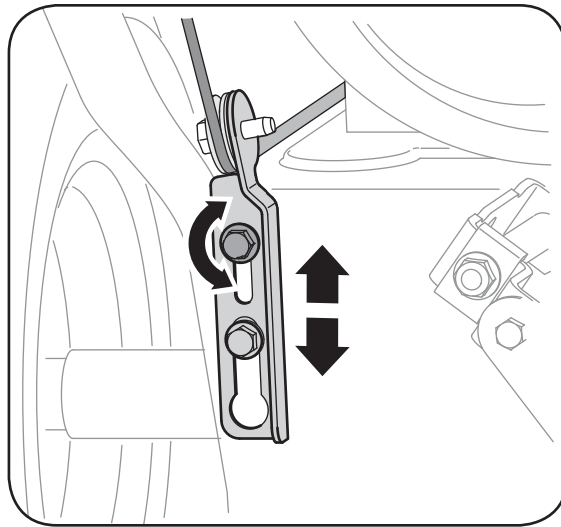

Figure 4-2
4. Allow the auger to remain engaged for approximately ten (10) seconds before releasing the auger control. Repeat this several times.
7. To readjust the control cable, loosen the upper hex nut on the auger cable bracket. See Figure 4-2.